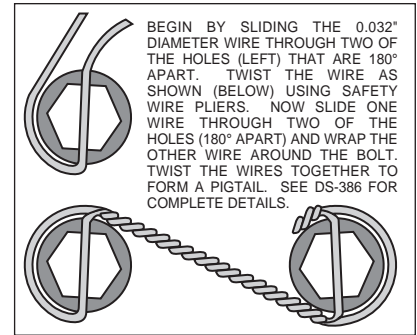

Figure 3. Safety Wire Diagram
- The caliper mounting bracket (1) should be installed first with clean, dry threads on the mounting bolts. Install the bracket (1) on the outboard side of the stock bracket by sliding bolt (2) from the inboard side of the hub assembly through washer (3) and the sleeve (4) which is inserted inside the existing OEM caliper mounting holes. Place two shim washers (16) between the hub and the caliper mounting bracket (1). The mounting bracket (1) must tighten squarely against the outboard side of the stock bracket face. Inspect for interference from casting irregularities, machining ridges, burrs, etc. Use two shims (16) between the mounting bracket (1) and stock bracket during initial trial fitting.
- With the larger I.D. side of the rotor (6) facing away from the hat (7), bolt rotor (6) to hat (7) through the backside of the rotor using washers (8), and bolts (9). Be sure all bolts thread in smoothly and are snug. Then, torque all bolts in an alternating sequence to 103 **in-lbs**. The rotor mounting bolts (9) must be lockwired using standard 0.032 inch diameter stainless steel safety wire as shown in Figure 3. Please refer to Wilwood's data sheet DS-386 (available at www.wilwood.com/pdf/ds386.pdf) for complete safety wire installation instructions.
- Slide the brake pads (15) up into the caliper (10) from the bottom until the "v" spring clip snaps into place against the anvil. They should install easily without interference.
- Lubricate caliper mounting studs and nuts with lightweight oil. Install two shims (14) over each stud (13) on the radial mount bracket (2). Slide the caliper (10) in place over the studs and rotor and install the washer (12) and lock nut (11) to hold the caliper in place. The caliper bleed screw should be pointing toward the rear of the vehicle. Snug the lock nuts (11) and check that the caliper (10) is centered over the rotor (6). Add or subtract .016" shims (5) and/or .030 shims (16) as necessary between the caliper mounting bracket (1) and the stock bracket to center the caliper (10) on the rotor (6).
- Check that the outside radius of the brake pad (15) is aligned with the outside diameter radius of the rotor face. Add or subtract shims (14) between the caliper (10) and caliper mounting bracket (1) to gain the proper alignment.
- Once all clearances have been checked, remove the wheel, caliper and rotor from the axle flange. Secure the caliper mounting bracket (1) to the spindle face while applying red *Loctite*® 271 on the bolt threads (2). Torque the bolts (2) to 35 ft-lbs.. Reinstall the rotor and again use several lug nuts to hold it in place. Reinstall the caliper, torque the caliper nuts (11) to 30 ft-lbs.